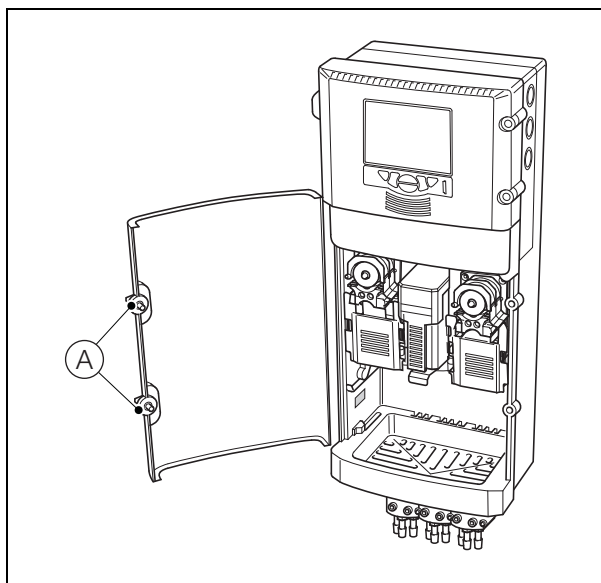

Fig. 4.1 Opening the Analytical Section Door
1. Referring to Fig. 4.1, release thumbscrews (A) and open the analytical section door.
7. Referring to Fig. 4.1, close the analytical section door and secure with the thumbscrews.